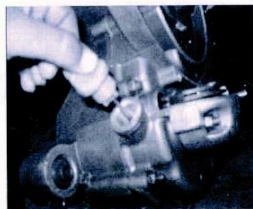

Fig. 40
- 3.2.1 For checking the oil level, unscrew dipstick as shown in fig. 40.